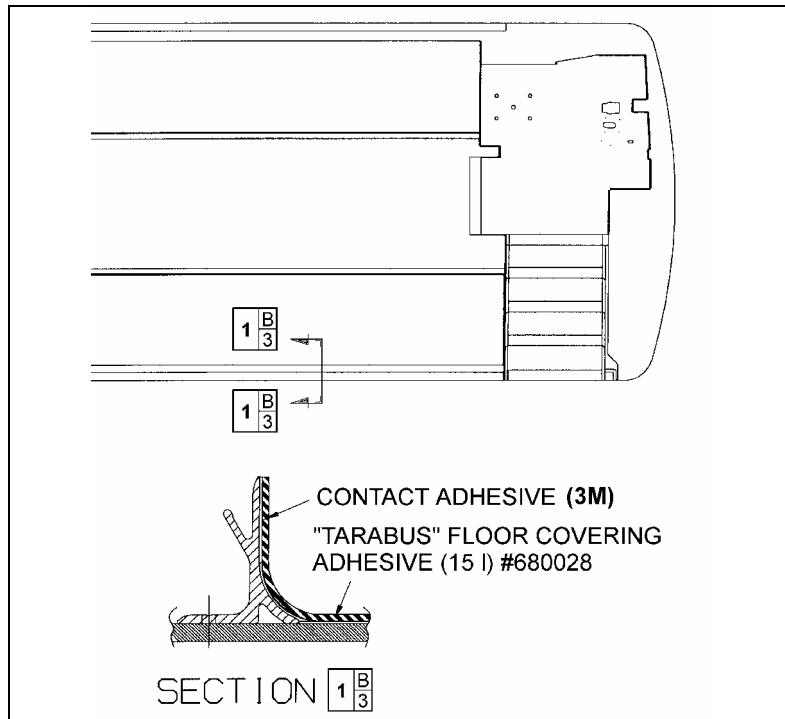

FIGURE 45: TARABUS FLOOR COVERING ADHESIVE APPLICATION
6. Apply floor covering adhesive (680028) onto plywood using a serrated spreader with 1/8-inch serration. If required, apply contact adhesive (3M) (684655 or 684654) onto aluminum molding and also onto section of floor covering, which will be in contact with molding (refer to figure 45).